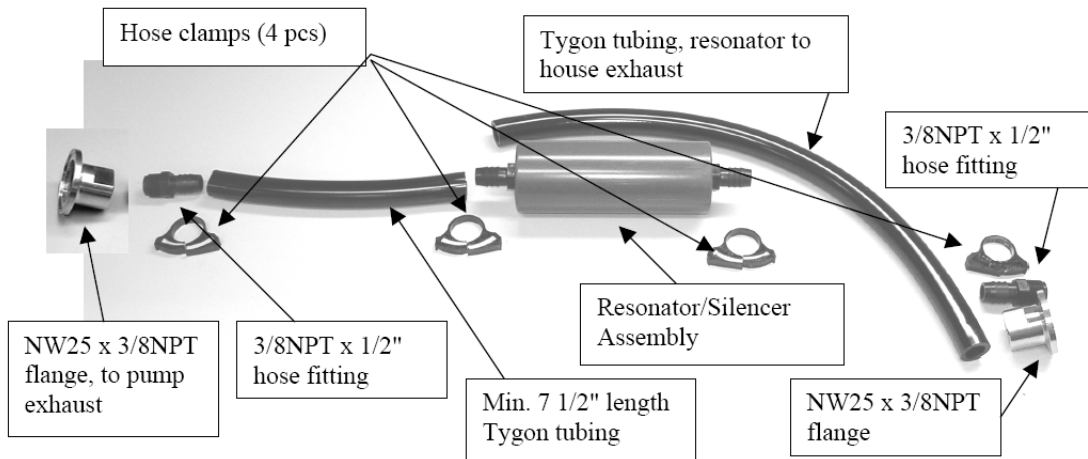

Figure 1-5 Exhaust Silencer Kit: Exploded View - Systems Originally with Triscroll Pumps
2. Cut one length of 1/2" Tygon tubing to at least 7 1/2" to go between the pump exhaust and the resonator (Figure 1-5). Cut the remaining length of tubing to any length convenient for the installation.